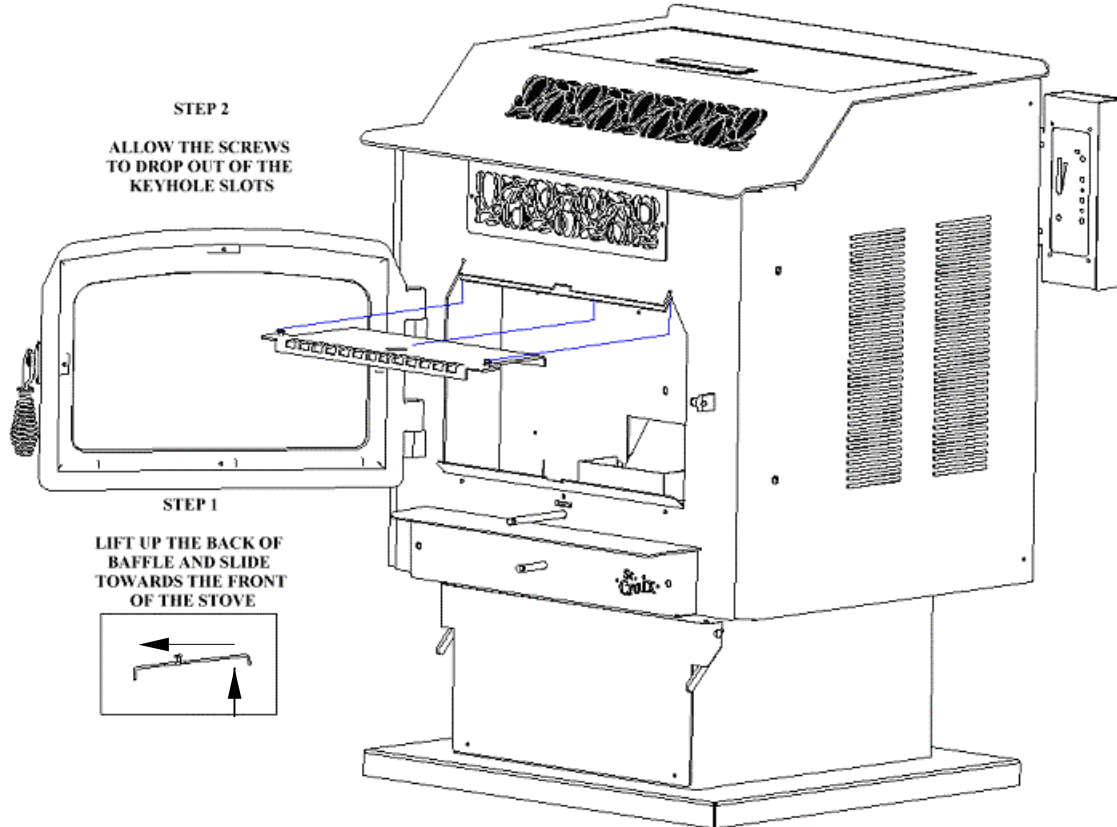

Figure 11
4. **Heat Exchange Baffle.** Remove the baffle and clean the ashes that accumulate on a regular basis. Once a month or sooner, depending on the quality of fuel being used (See Figure 11 on Page 18)